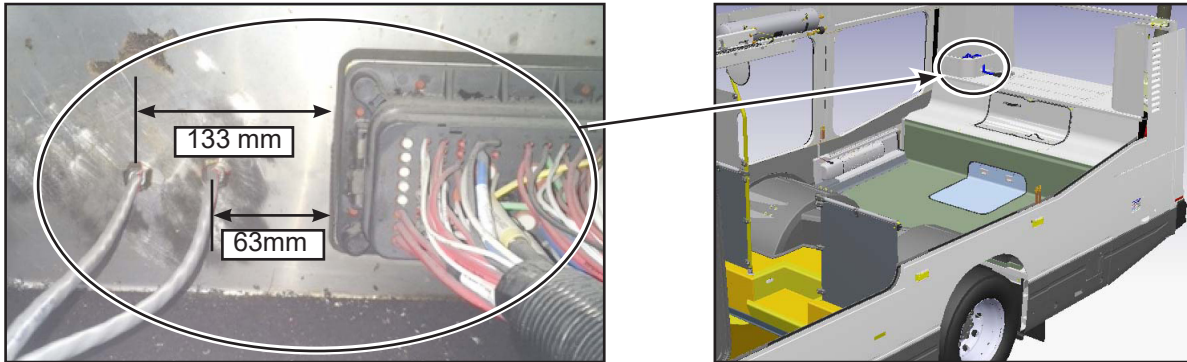

Figure 16 - Drill Two Holes for Later Installation of Cable Glands
- 2.3. Drill two 12 mm holes to the left of the +IB-X6499A bulkhead connector located in the lower part of the FSS area. Align the first hole vertically with the center of the connector and 63 mm to the left. Align the second hole vertically with the center of the connector and 133 mm to the left (see Figure 16).